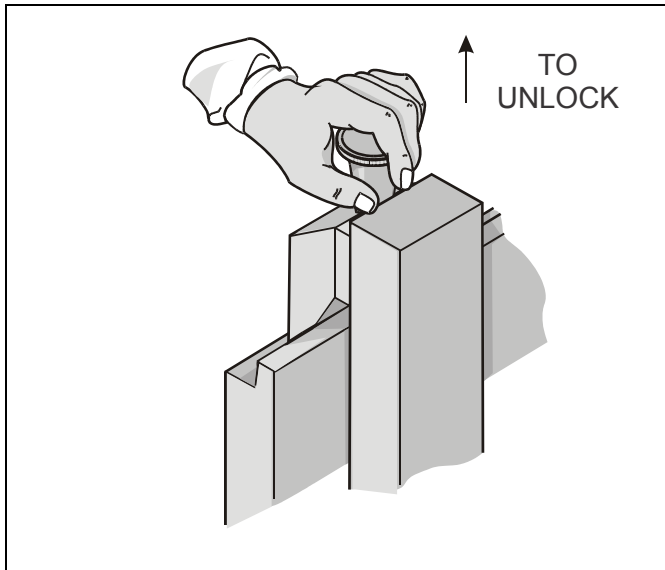

Figure 3-1: Changing Forks
- Pull the fork tine upward until the hook is free of the carriage (See Figure 3-1).